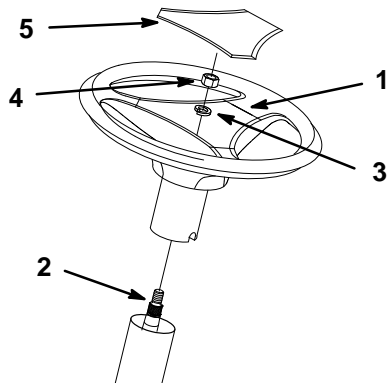

Figure 3
2. Remove logo cover by releasing (3) latches from back side with screwdriver.
3. Line up center spoke toward the seat and position the steering wheel onto shaft spline (Fig. 3).
4. Secure steering wheel with lockwasher and nut (Fig. 3).
6. Snap logo cover into place (Fig. 3).